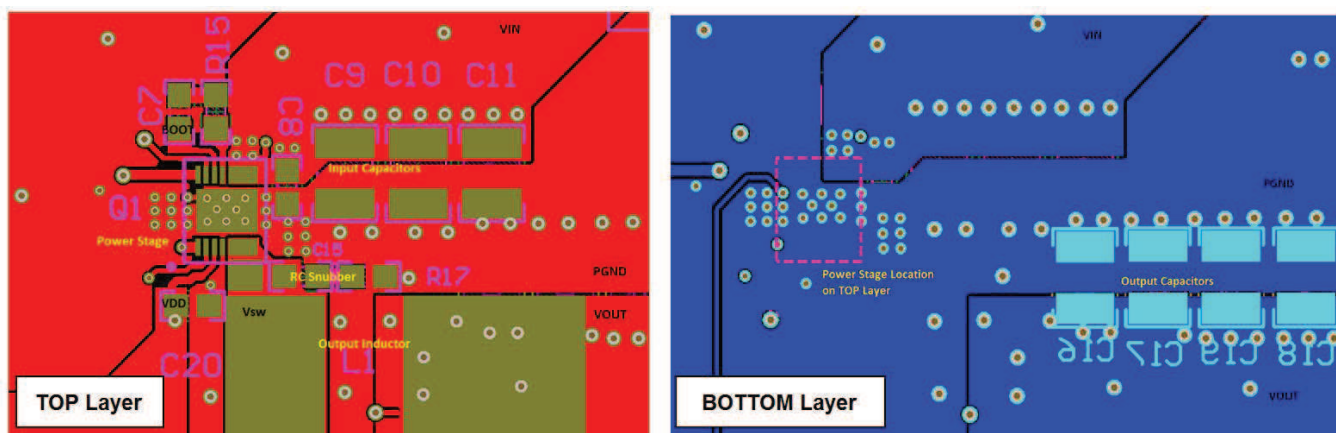

Figure 14. Recommended PCB Layout (Top Down View)
- The placement of the input capacitors relative to V_{IN} and P_{GND} pins of CSD95379Q3M device should have the highest priority during the component placement routine. It is critical to minimize these node lengths. As such, ceramic input capacitors need to be placed as close as possible to the V_{IN} and P_{GND} pins (see Figure 14). The example in Figure 14 uses 1 \times 1-nF 0402 25-V and 3 \times 10- μ F 1206 25-V ceramic capacitors (TDK part number C3216X5R1C106KT or equivalent). Notice there are ceramic capacitors on both sides of the board with an appropriate amount of vias interconnecting both layers. In terms of priority of placement next to the power stage C8, C9, C10 and C11 should follow in order.
- Use the smallest drill size allowed in your design. The example in Figure 14 uses vias with a 10-mil drill hole and a 16-mil capture pad.